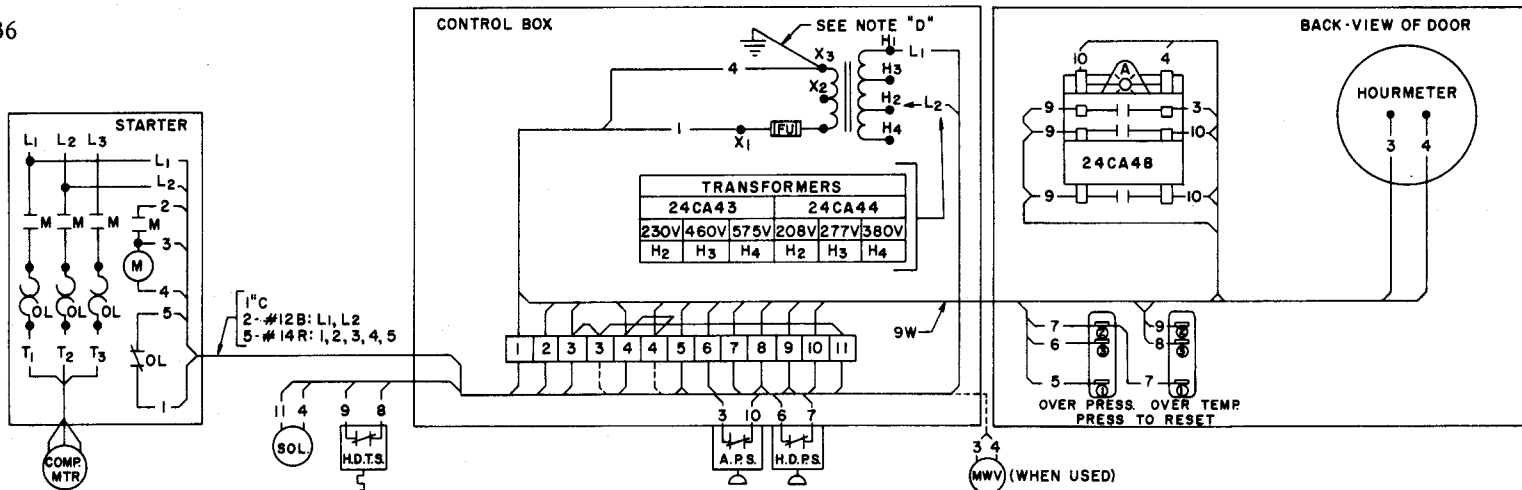

FIGURE 9-2. - WIRING DIAGRAM FOR UNIT WITH DUAL CONTROL SYSTEM
**Electrical Wiring** – Figure 9-2 is the wiring diagram for the unit with Dual Control system.